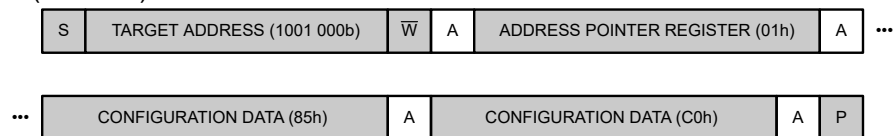
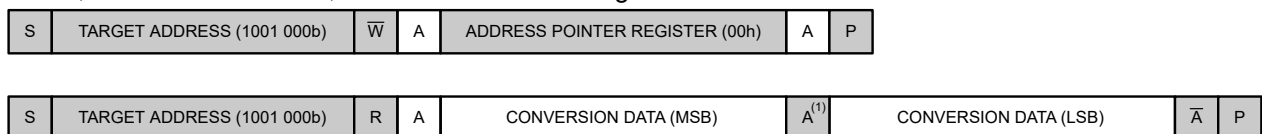
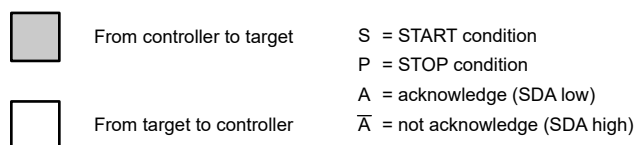

Figure 10-5. Write the Configuration Register
Figure 10-7. Read the Conversion Register
Figure 10-8. Legend for the I²C Sequence Diagrams
3. Then, as shown in Figure 10-7, read the Conversion register.
To save time, a new conversion can also be started (step 4) before reading the conversion result (step 3). Figure 10-8 lists a legend for Figure 10-5 to Figure 10-7.